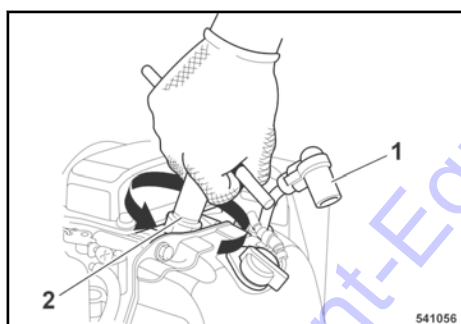

Fig. 41
Pull off the spark plug socket (1) ↪ Fig. 41.